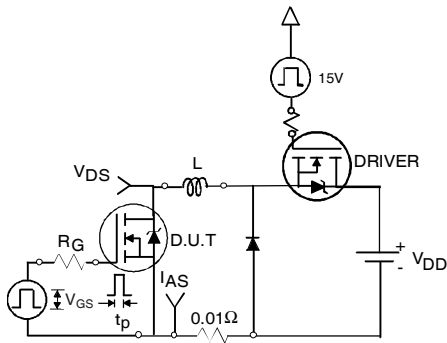

Fig 12a. Unclamped Inductive Test Circuit
- ③ Pulse width $\leq 1.0\text{ms}$; duty cycle $\leq 2\%$.
- ④ $C_{oss\ eff.}$ is a fixed capacitance that gives the same charging time as C_{oss} while V_{DS} is rising from 0 to $80\% V_{DSS}$.
- ⑤ Limited by T_{Jmax} , see Fig.12a, 12b, 15, 16 for typical repetitive avalanche performance.
- ⑥ This value determined from sample failure population, starting $T_J = 25^\circ\text{C}$, $L = 0.08\text{mH}$
3. Equation below based on circuit and waveforms shown in Figures 12a, 12b.